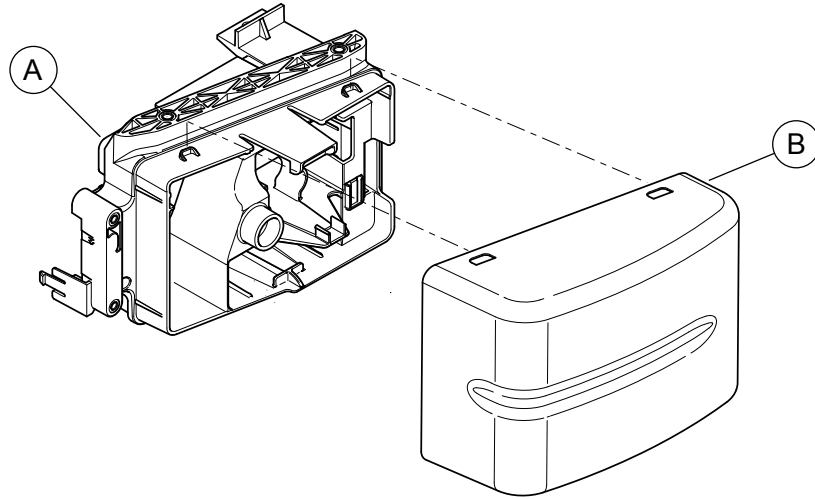

Figure 4. Service Parts: Electrical Caddy and Caddy Cover
1. See Figure 4. Remove the existing caddy cover. Pull top of cover off retention bumps and then down to release from tab at bottom.